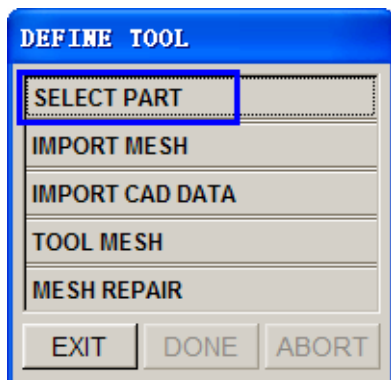
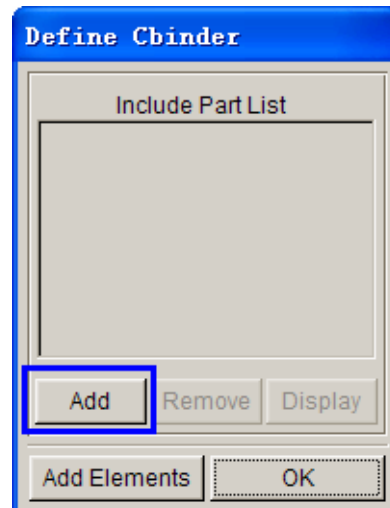

Figure 1.30: Define tool dialog box
Figure 1.31: Define Cbinder dialog box
- 10) Select SELECT PART mode in the popped out DEFINE TOOL dialogue box. See figure 1.30. Define binder dialogue box pops out, click Add button. See figure 1.31.